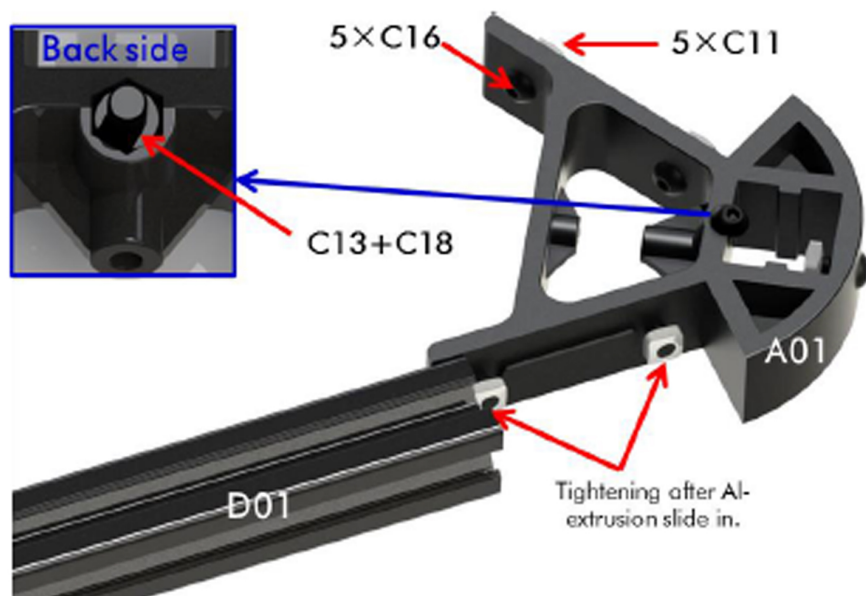

Fig 1
Step 1. Firstly, hang but not tighten 5 pairs of C16 and C11 onto A01 as shown in Fig 1. Then push an Al-extrusion (D01) through two screws along A01 and tighten the corresponding screws. Lastly, fix one pair of C13 and C18 onto A01 as shown in top-left.